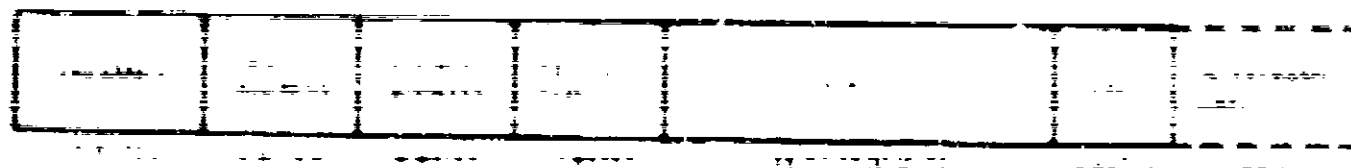

Figure 1-7 Ethernet Data Frame Format
1.3.6.3 Data Frame Format – Each station transmits a frame of serial data in the format shown in Figure 1-7. Each byte of data is right-shifted within the format. Table 1-10 describes the byte fields that make up a data frame.